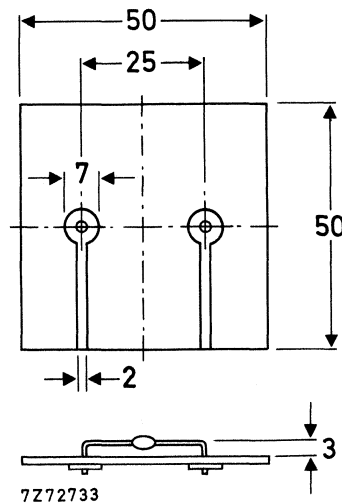

Fig. 2 Mounted on a printed-circuit board.
2. Thermal resistance from junction to ambient; device mounted on a 1.5 mm thick epoxy-glass pc board; Cu-thickness $\geq 40\text{ }\mu\text{m}$; Fig. 2 (see "Thermal Model")